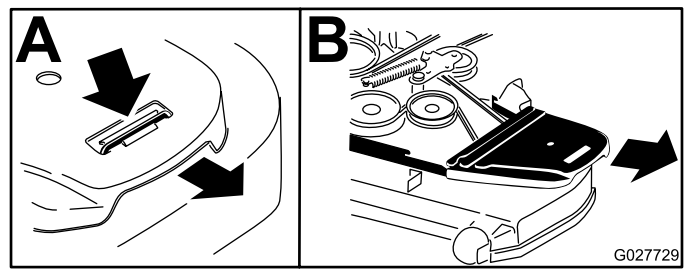

Figure 101
5. Remove the plastic belt cover (Figure 101).
4. Remove the belt covers (Figure 101).